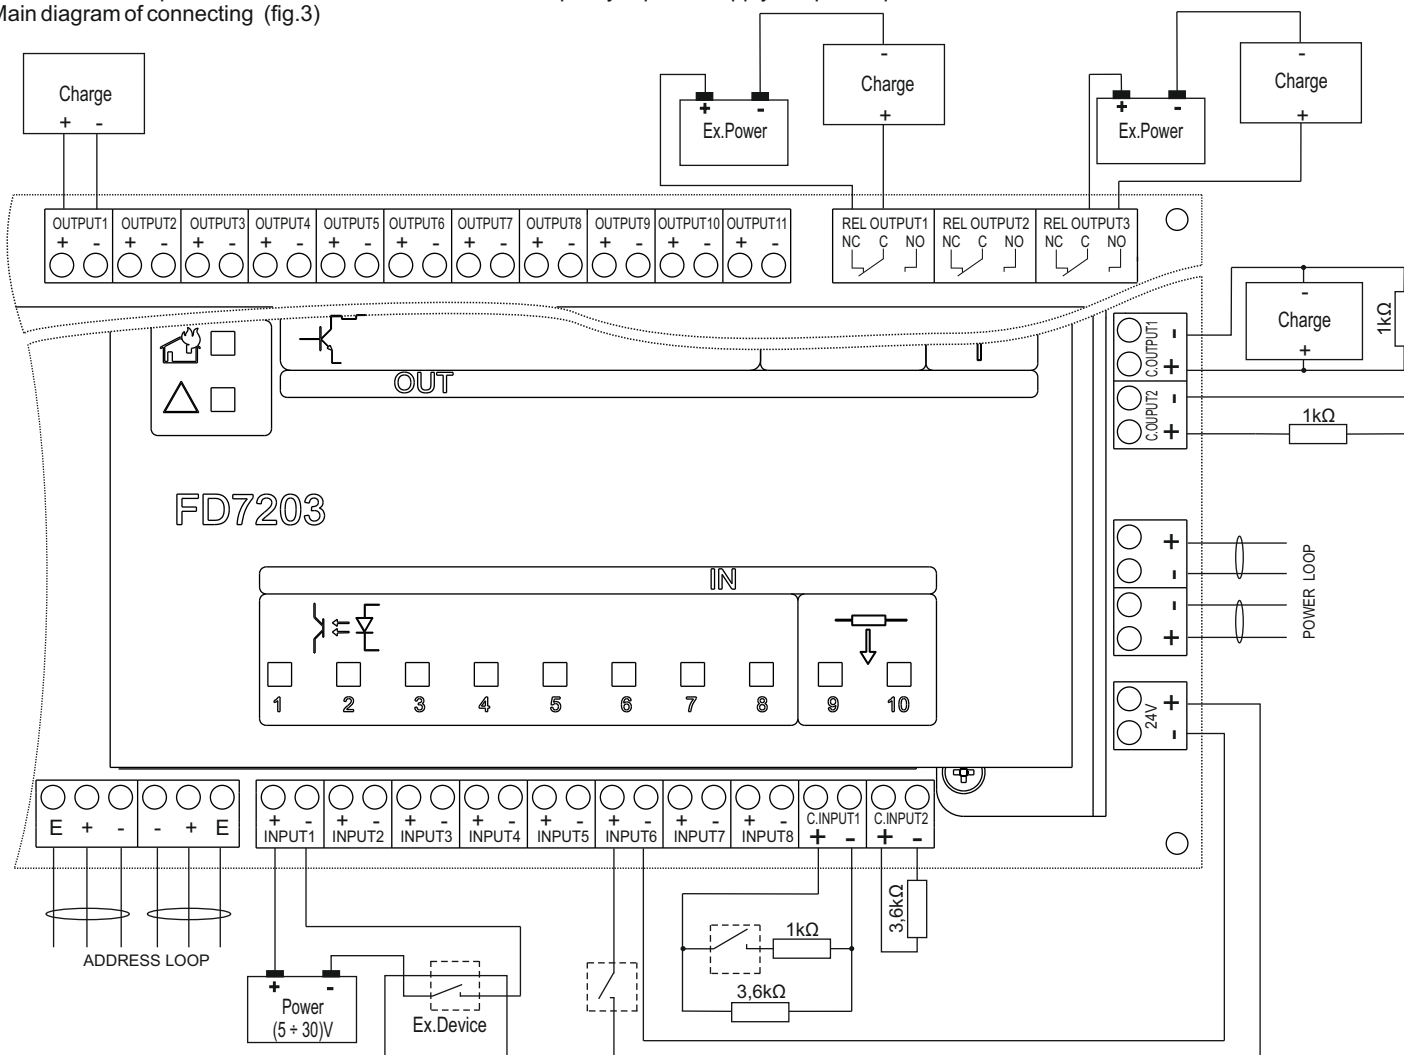

Fig.3
- ◊ Activated from external power (5÷30)V DC (fig.3).
- ◊ The controllable inputs still not used are balanced with resistor 3,6kΩ (fig.3).
- ◊ The group key+resistor 3,6kΩ+resistor 1kΩ (fig.3) are mounted at the end of the line.
- ◊ The controllable outputs still not used are not balanced with resistor 1,0 kΩ (fig.3).
- ◊ The condition of normal work of outputs is a maximum resistance of shlaif 50Ω and connected end resistor 1kΩ (fig.3).
- ◊ “C”- common contact of relay output, “NO”- normal open contact, “NC”- normal closed contact (fig.3).
### 2.2. Main diagram of connecting (fig.3)